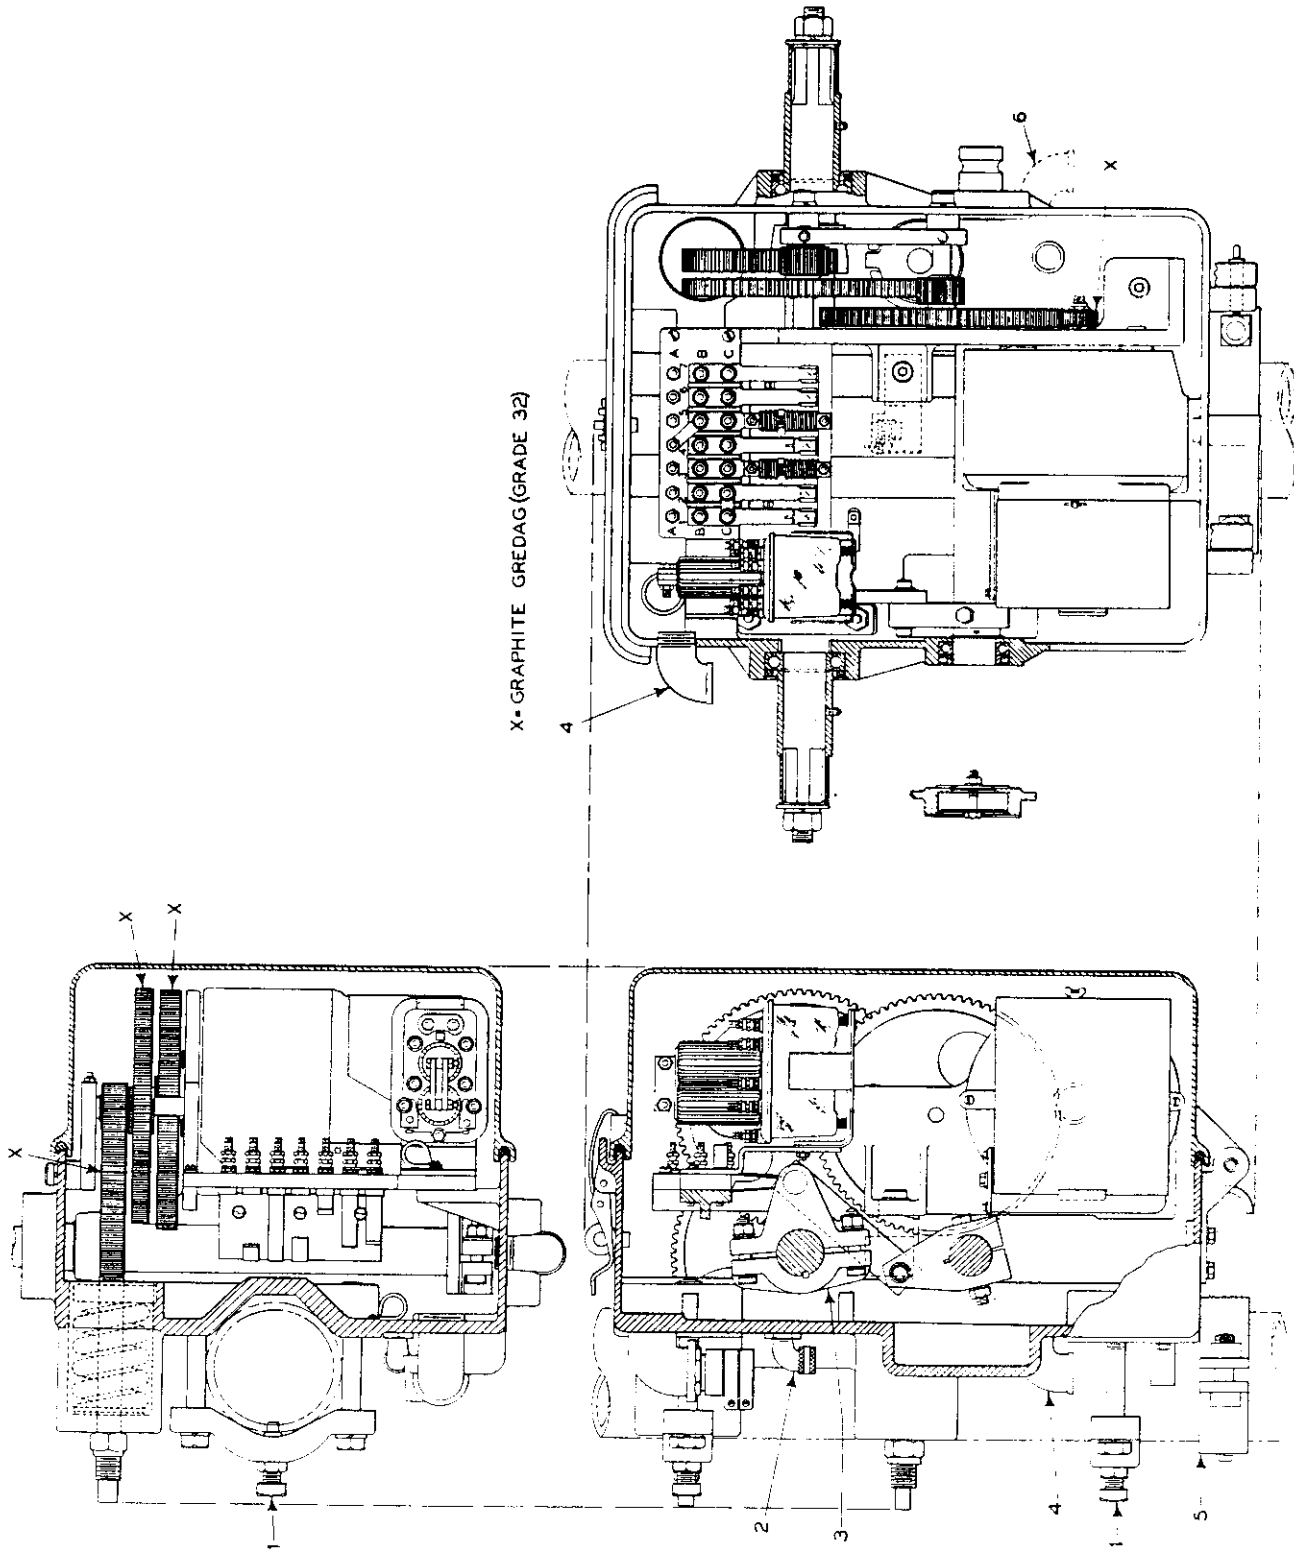
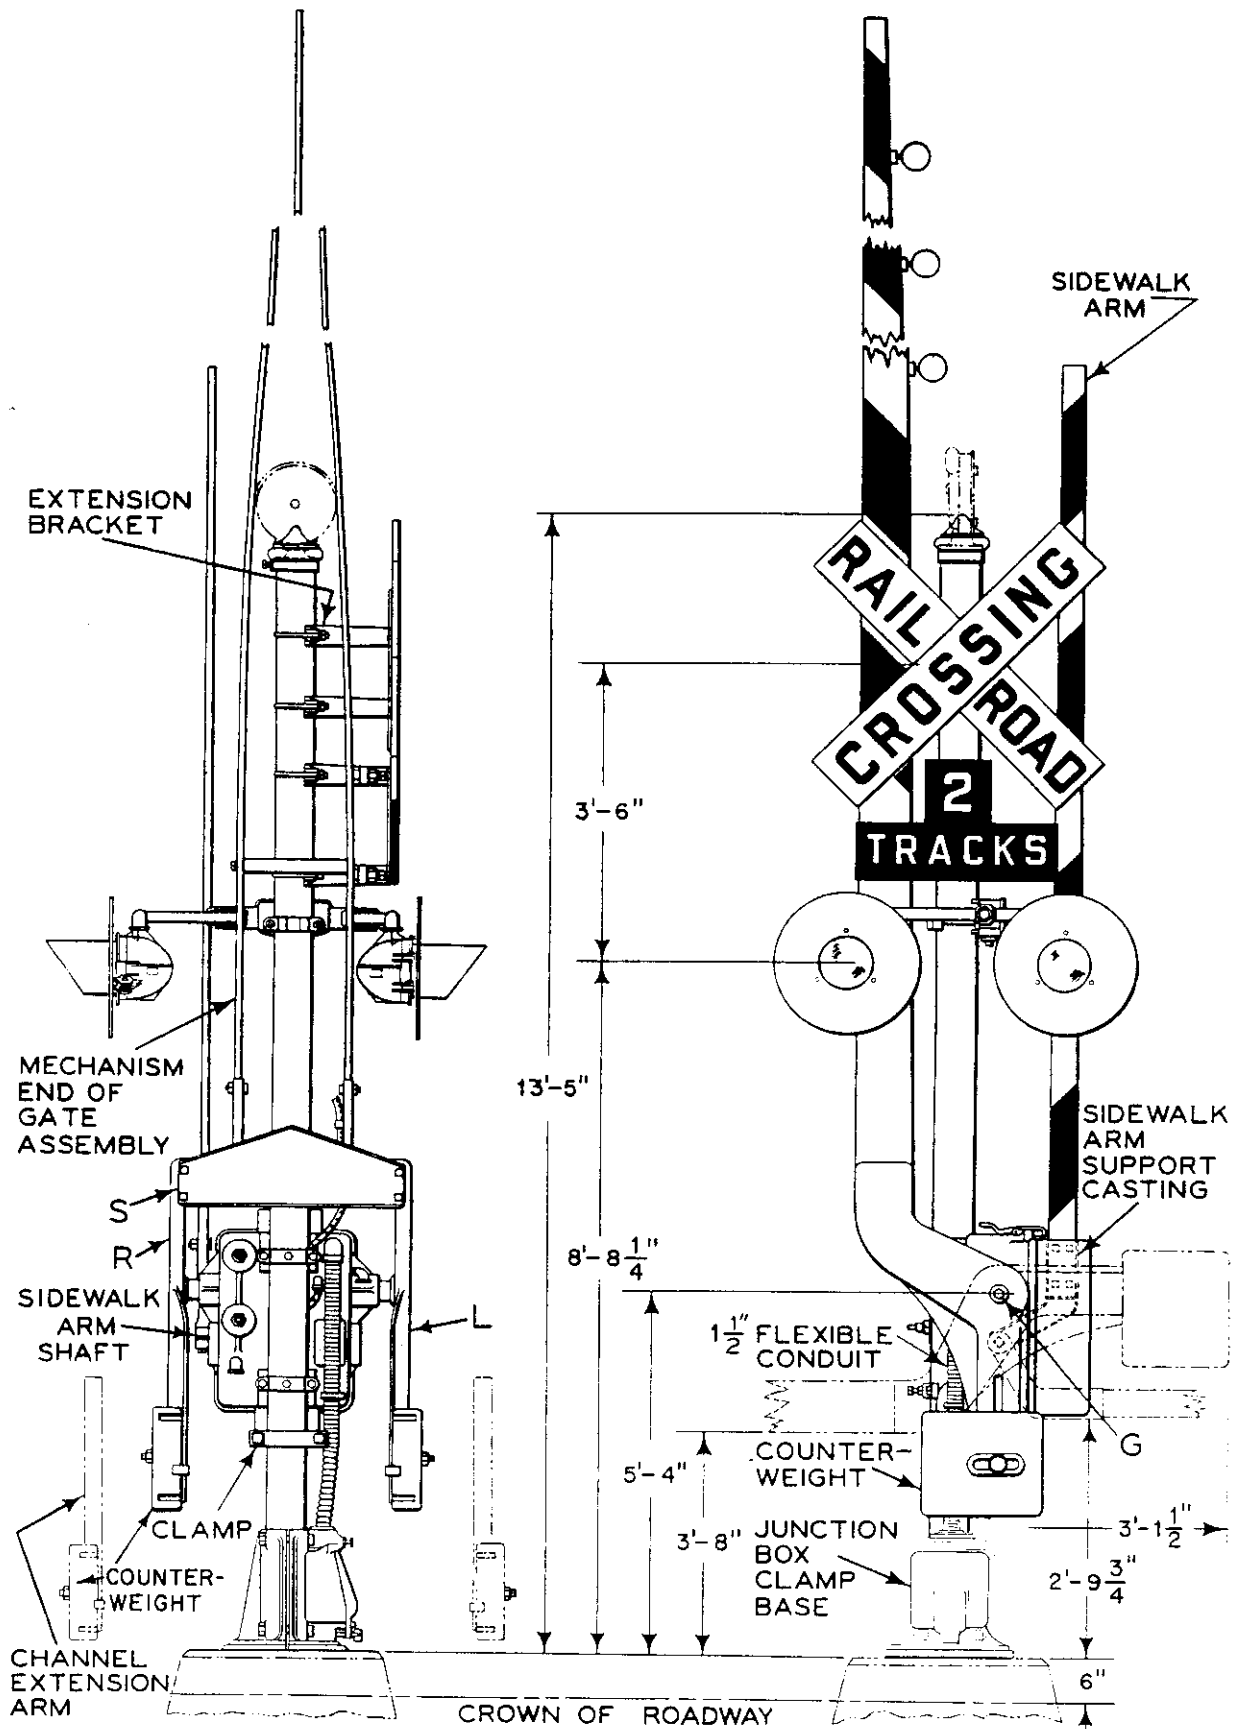

Figure 2. Assembly diagram.
Figure 5. Automatic crossing gate.
The cast-iron housing fastens to a 5-inch mast by means of two pole clamps. A support clamp, ref. 5, Figure 2, is provided for attaching to the mast below the housing. When the pole clamps are loosened, this clamp holds up the housing while it is rotated away from the highway during installation, adjustments, or replacement of the gate arm. Gasketing in the cast-aluminum cover prevents the entry of dust or water.
1. Clamp the Type D gate mechanism, Figure 5, to the mast on the side away from the roadway (so that the shaft is 5 feet, 4
inches above the top of the foundation) using pole clamps 1, Figure 2. The shaft should then be 5 feet, 10 inches above the crown of the roadway to bring the gate arm to the proper height.
2. Attach support clamp 5, Figure 2, to the mast and against the mechanism. Locate and drill a $\frac{1}{2}$ -inch diameter hole in the mast for the pin on the clamp. Loosen the pole clamps and swing the mechanism around 90 degrees so that the gate arm can be installed without blocking vehicular traffic on the crossing.
4. Remove the nuts and washers from the ends of gate arm shaft G, Figure 5, and apply the gate arms and counterweight support arms R and L, Figure 5, keeping the gate end in the horizontal position when applying to the shaft. Replace the washers and nuts on the ends of the main shaft, but do not tighten the nuts.
NOTE: The mechanism can be equipped with a sidewalk arm shaft which has a square section extension on one side only of the mechanism case. This shaft is installed to extend from the right (track) side of the case. The sidewalk arm if used, should be applied in the horizontal position corresponding with the position of the roadway arm. Proper alignment is attained by loosening clamp 3, Figure 2, and adjusting the arm to the true horizontal. The sidewalk arm support casting should be applied before support R, Figure 5. However, do not apply the sidewalk arm until the torque has been adjusted.
1. Install the gate arm lights in the existing holes, using the bolts furnished. Attach the wires to the terminal blocks, leaving a proper drip loop. Apply the terminal block cover so that the slotted wire opening, facing the mechanism end of the arm, will drain with the gate arm in the clear position. Remove the plug from the wire entrance opening in the back of the case, and insert cable grip 2, Figure 2, in the tapped hole. Insert the cable, extending from the gate arm, through the cable grip.
2. Secure the cable in the connector and attach the wires to the terminal posts inside the mechanism case. If a sidewalk arm light is used, drill and tap a $\frac{1}{2}$ inch pipe-threaded hole in the side of the mechanism case near the sidewalk arm shaft bearing, and install $\frac{1}{2}$ inch street-ell 6, Figure 2, with the strain relief bushing. Insert the two conductor cord through the rubber bushing and pull enough cord into the case to reach the terminals. Tighten the strain relief bushing. Connect the wires to the terminals in the mechanism case to which the roadway arm tip is already connected.
Where gate arms are not more than 24 feet long, only one counterweight support arm R, Figure 5, is required. The other gate support arm L has no extension for mounting a counterweight. Where gate arms exceed 24 feet in length, two counterweights are required, and extensions are provided for mounting the counterweights on both support arm R and support arm L. Note that the length of a gate arm is measured from the center line of the mast. To attach the counterweight, proceed as follows: